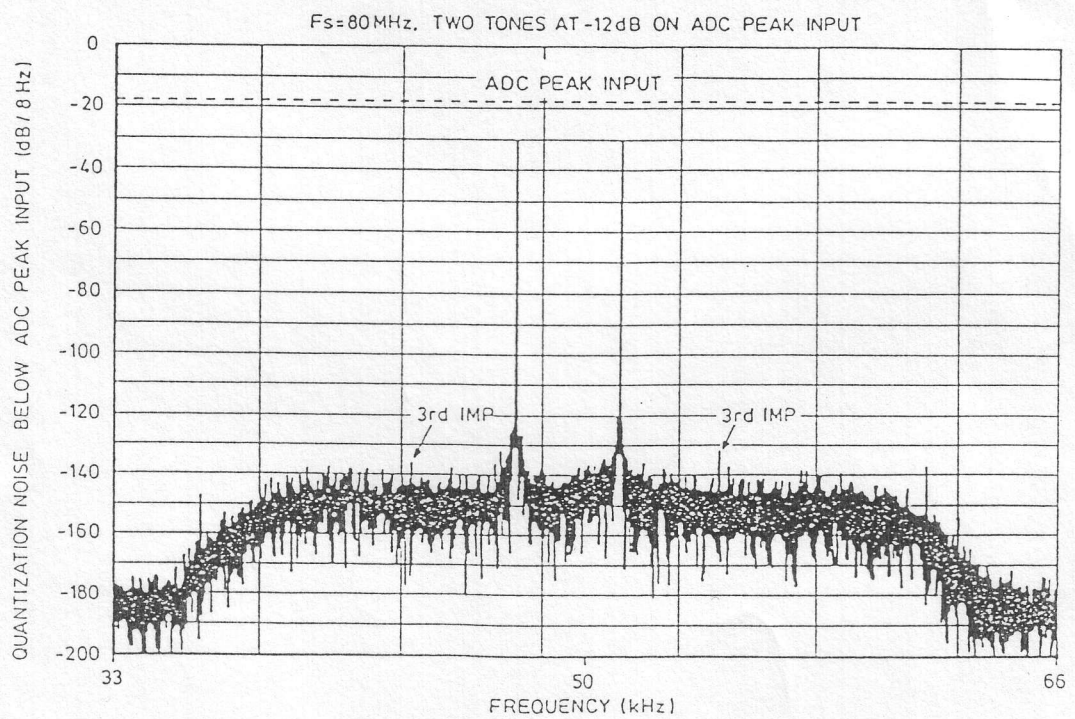

Figure 5 - Passband Spectrum of Baseband ADC Module
- Figure 5 Passband Spectrum of Baseband ADC Module
The resulting spectral plot should show a single output tone at 1 kHz of amplitude 24 dB below clip and an average noise level of better than -120 dB with respect to clip at 1 kHz from the carrier. The ADC's clipping level corresponds to an output of #7FFFFFFF. Figure 5 shows the general form expected for this spectrum.